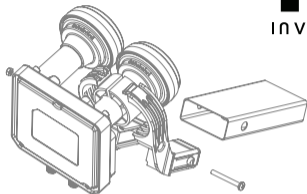

Fig. 1
1. Place the LNB in the LNB holder/clamp of the dish antenna. Close the LNB holder handle and lightly tighten the clamp screw so that the LNB can still rotate (Fig. 1).